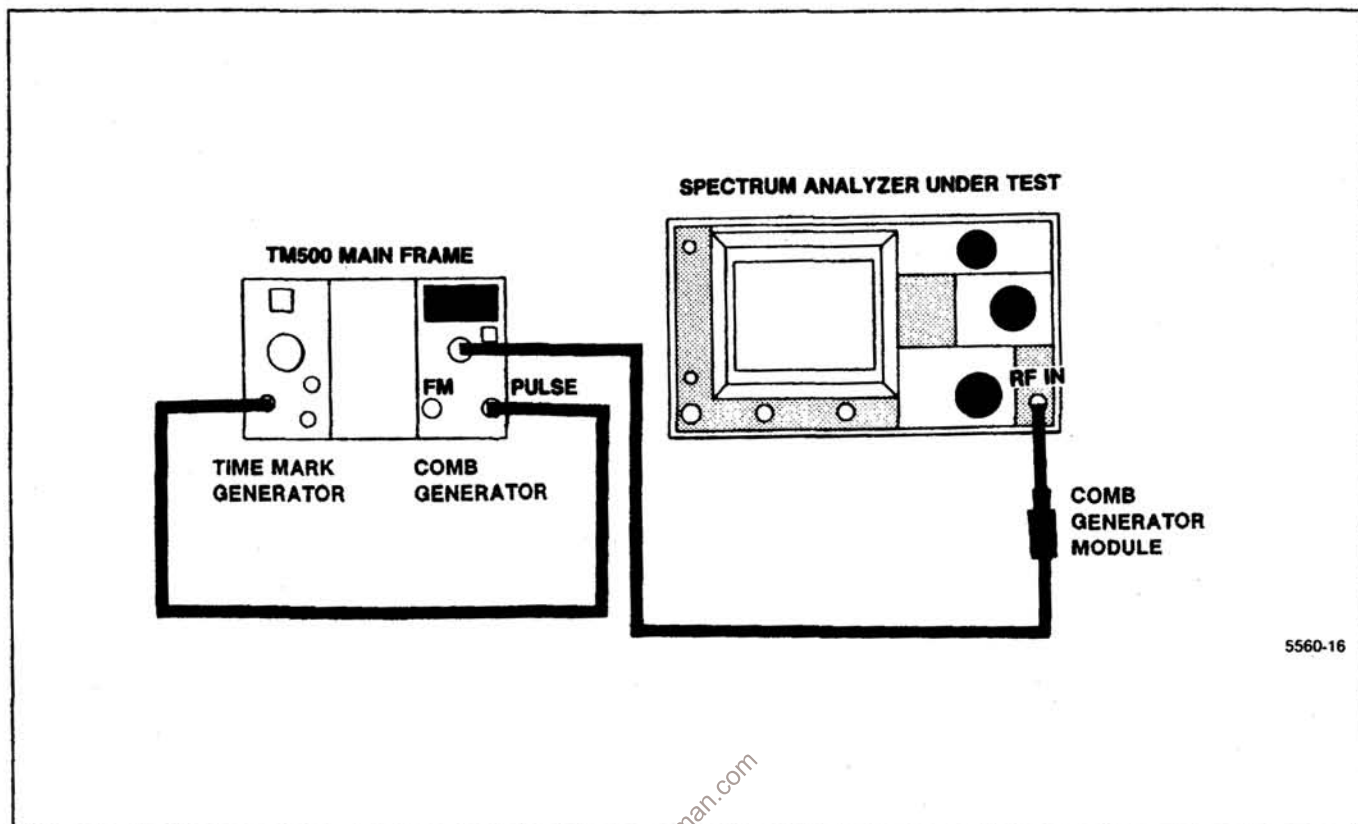

Figure 4-7. Test equipment setup for checking frequency Span/Div and sweep Time/Div accuracy.
c. Remove the CAL OUT signal from the RF INPUT and set up the test equipment as shown in Figure 4-7. Set the CENTER FREQUENCY to 10 GHz, SPAN/DIV to 500 MHz, RESOLUTION BANDWIDTH to 100 kHz, and REF LEVEL to -10 dBm. Peak the response with the MANUAL PEAK control and set REF LEVEL for the best marker definition. It may also help to reset the CENTER FREQUENCY for better marker definition.
f. Modulate the Comb Generator signal with 10 μ s markers, from the Time Mark Generator, by applying the Marker Output to the Pulse Input of the Comb Generator as shown in Figure 4-7. Set the MANUAL PEAK control for optimum marker definition.